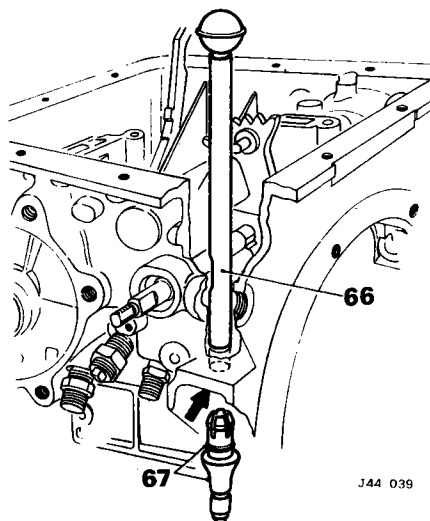

Fig. 38
- 66. Using Service tool CBW 62, compress lugs of the cable retaining plug (Fig. 38).
- 67. Withdraw the kick-down cable assembly; remove and discard the 'O' ring (Fig. 38).